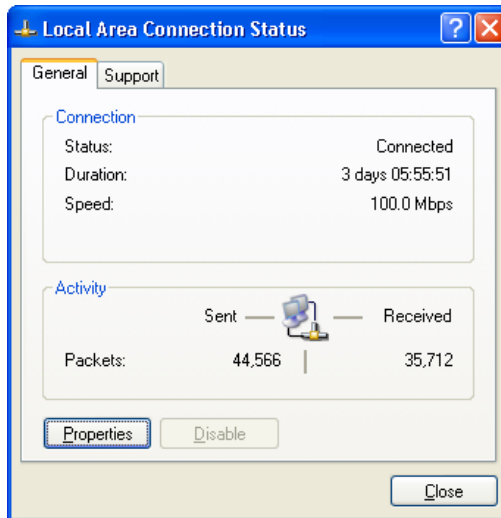

Figure 4. The Local Area Connection Status Dialog
5. In the panel labeled LAN or High-Speed Internet, double-click the Local Area Connection icon. The Local Area Connection Status dialog box appears, as shown in Figure 4.